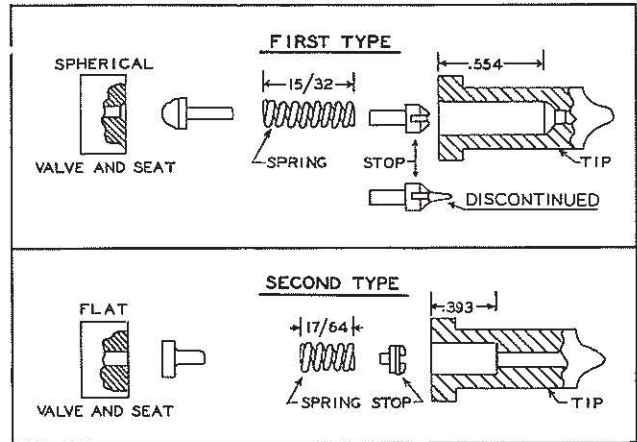

FIG. 15
2. The 2nd type injector check valve, as shown in Fig. 15, has a flat surface contact with the double check valve seat, whereas the former valve, as shown, 1st type, was spherical and seated accordingly. The 2nd type valve may require occasional lapping, and this lapping can be accomplished in the field successfully; whereas the spherical check valve could not.